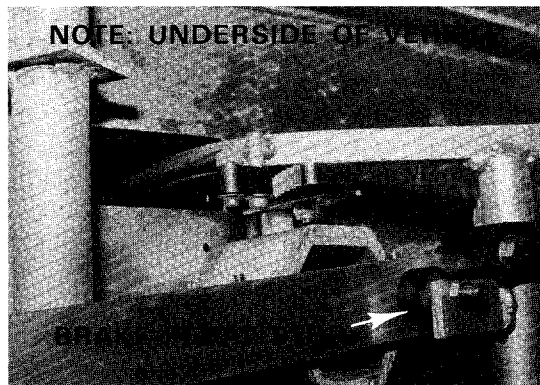

Figure 13-6
4. Loosen jam nut on rubber pedal stop and rotate stop until pedal is 6½" from floormat (Figure 13-6).